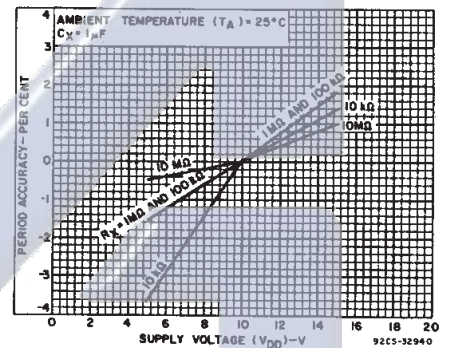

Fig. 11—Typical astable oscillator or Q, \bar{Q} period accuracy vs. supply voltage.
B. Variations Due to V_{DD} and Temperature Changes — In addition to variations from unit to unit, the astable period varies with V_{DD} and temperature. Typical variations are presented in graphical form in Figs. 11 to 16 with 10V as reference for voltage variations curves and 25°C as reference for temperature variations curves.